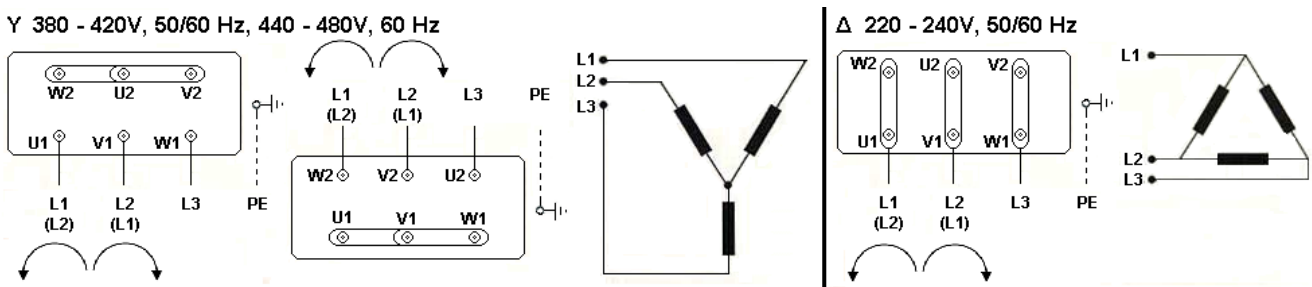

Fig. 2.
4. Connection of the electric motor is done as shown in Fig. 2. and depending on which 3-phase voltage is available. Check all the data on the electric motors data label to ensure that motor protection and connection are properly carried out. The electric motor must be equipped with a suitable control circuit and motor protection. Different brands of motors may be present. See the enclosed manual from the engine manufacturer, and follow its installation instructions. Specifically for this unit: The connection cable must have an area of at least 1.5 mm². Ensure that the motor rotation direction is correct.
If the phases L1, L2 and L3 are connected to the terminals as shown in Fig. 2 the motor shaft rotates clockwise, seen against the shaft end on the drive side. Let two of the phase cables change place if the direction of rotation needs to be changed.